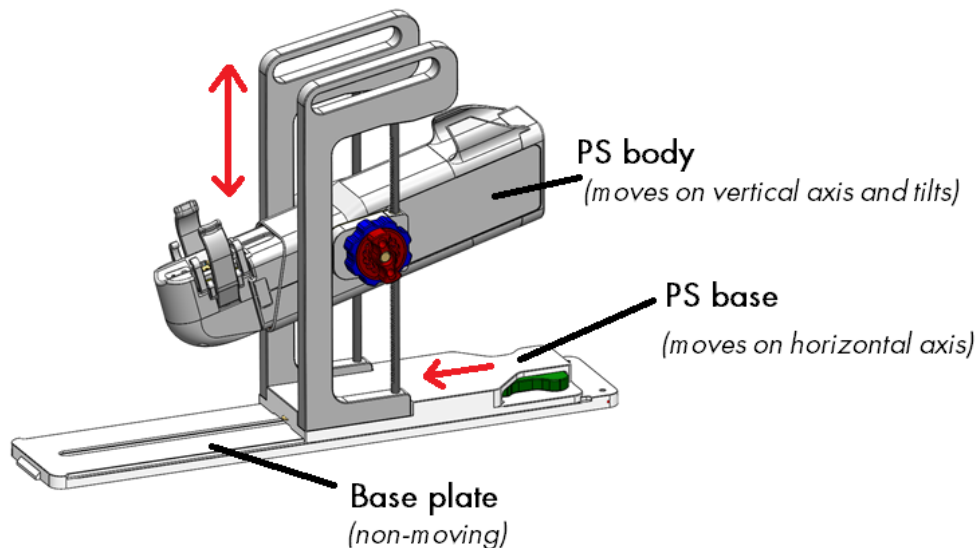

Figure 21: Adjusting the Positioning System
3. **MRI Technologist:** Manually move the PS into position so that the UA gripper aligns with the natural angle of the UA in the patient. Manually adjust the base of the PS forward and backward and up and down, and tilt the linear axis of the PS up and down (Figure 21).
NOTE: The PS adjustment knobs and levers are not coloured as in *Figure 21*, but are coloured here to help with these instructions.